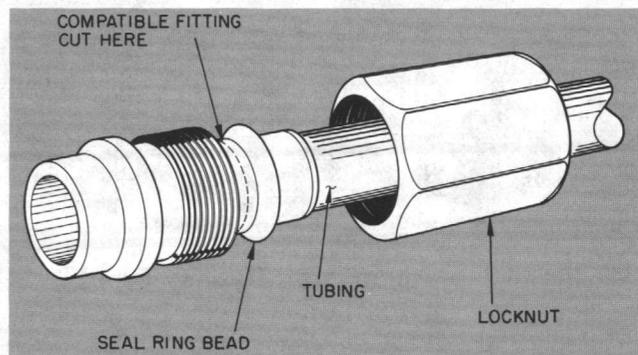

Fig. 12 — Repair of Mechanical Connection
2. Back locknut off Compatible Fitting onto tube at indoor coil as in Fig. 12.